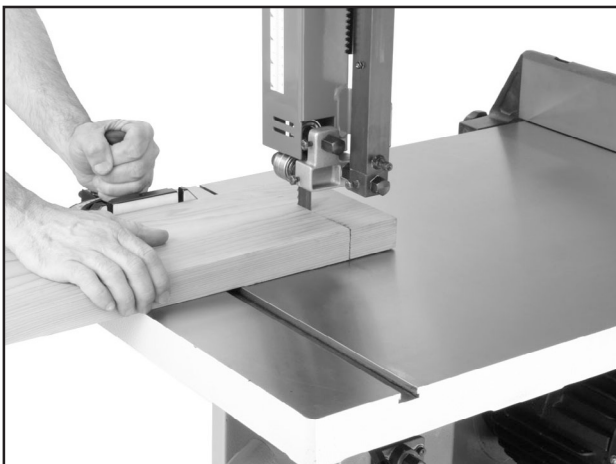

Figure 49. Example of crosscutting operation with miter gauge.
5. After all safety precautions have been met, turn the bandsaw **ON**. Slowly feed the workpiece into the blade and continue the cut until the blade is all the way through the workpiece. **Figure 49** shows a typical crosscutting operation.